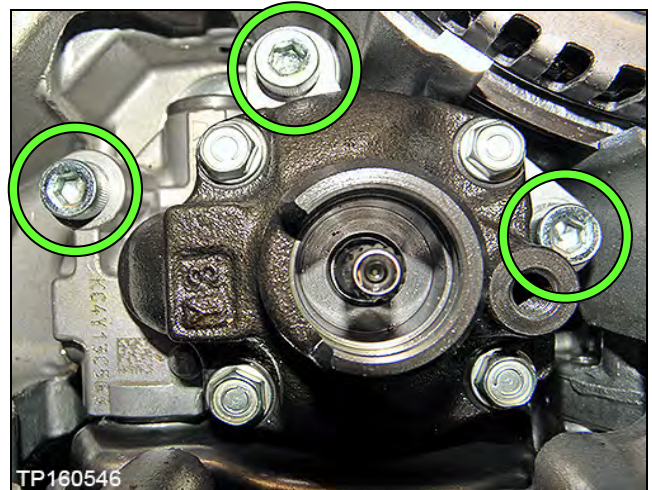

Figure 1E
1. Install the new oil pump using three original Allen-head bolts (Figure 1E).